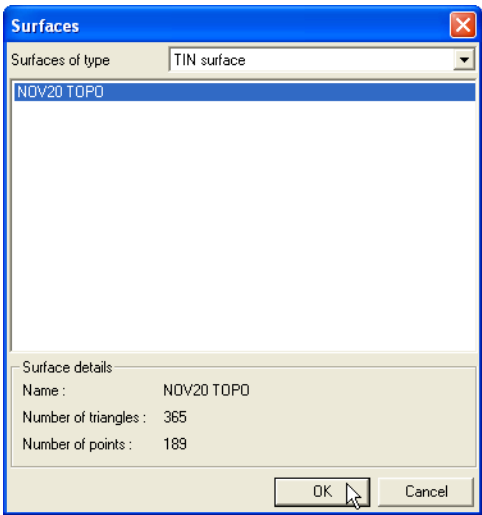

Figure 7-13. Select Surface to Compare
2. On the *Surfaces* dialog box, select the following and click **OK** (Figure 7-13 on page 7-13):